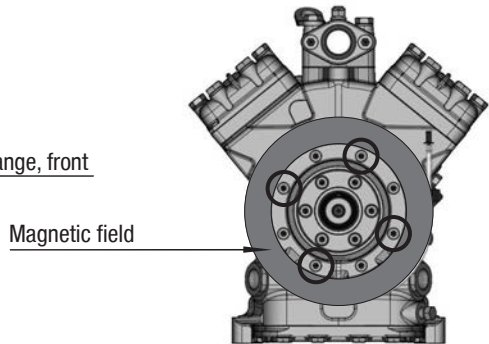

Fig. 13
- Slide the magnetic field to a snug fit and re-attach using the four cheese head screws M8 (Fig. 13). Screw torque = 37 Nm.